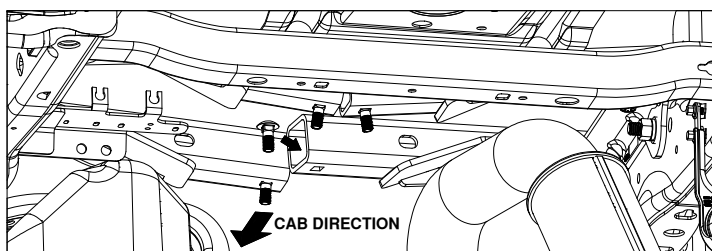

Figure C3: View looking up under the bed.
3. **Place carriage bolts into cross members.** Move the cross members so that the open end of the tube is accessible. Place a 1/2" carriage bolt into each of the four cross members, as shown in Figure C3.